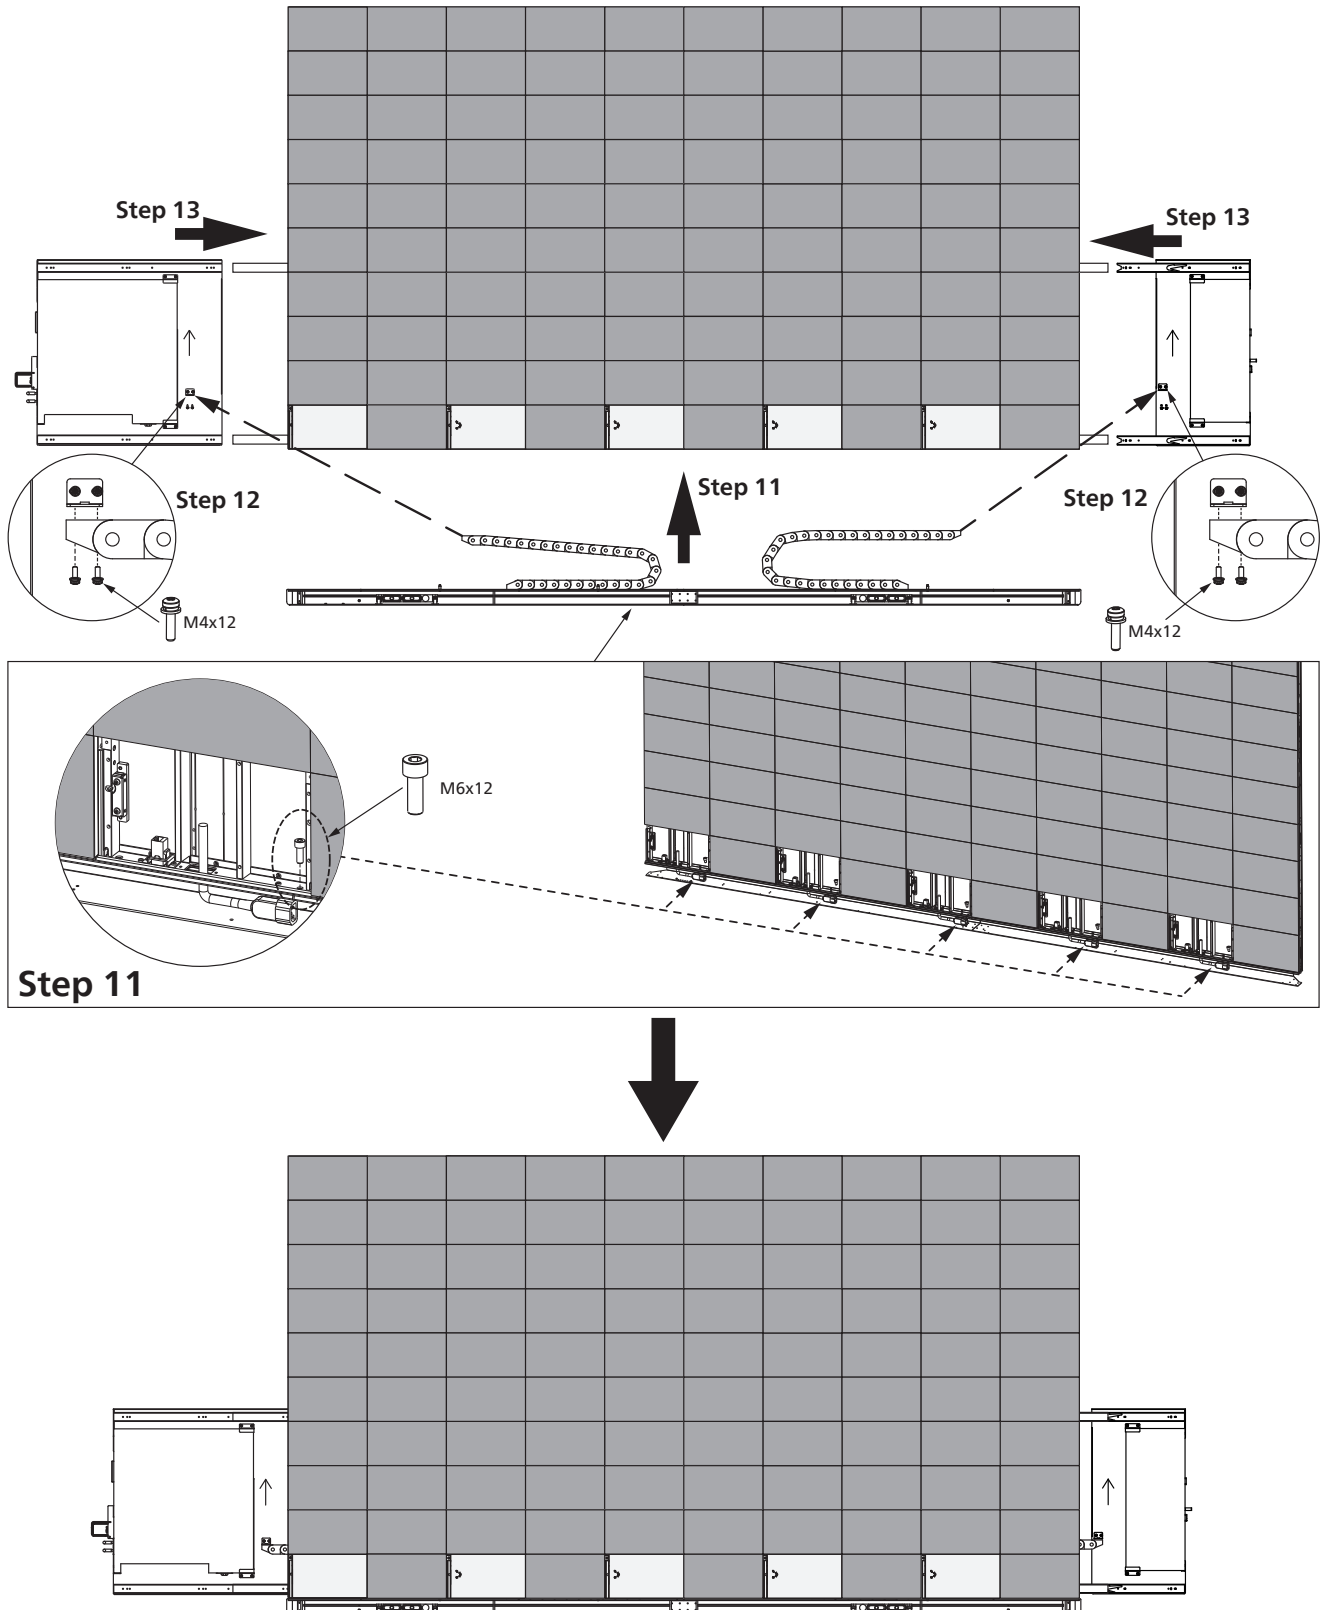

Figure 14
11. Use the vacuum tool to remove the 5 modules as shown in Figure 14; and then use the hex screwdriver to lock the Bottom sound bar and the screen(5 modules correspond to five holes). Make sure that the power cord brought on the bottom of the cabinet passes through the corresponding hole on the Bottom sound bar, as shown in Figure 14.
12. Connect the drag chain to the cover plate with screws, as shown in Figure 14.
13. People positioned in front of the screen. Slide the Modular Meeting Room box into the slide rails on the left side, and slide the Power supply box into the slide rails on the right side, as shown in Figure 14.